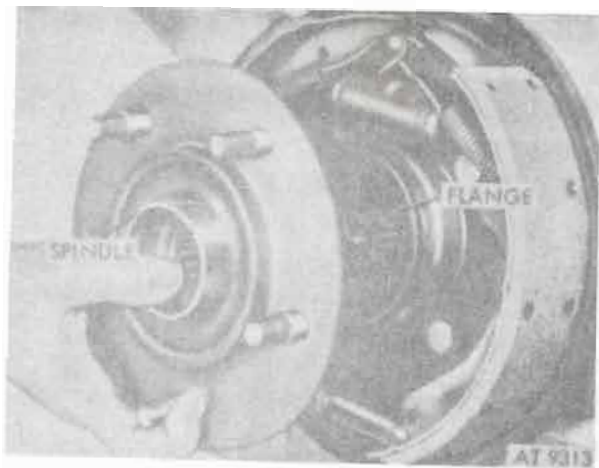

Figure 11-14. Rear wheel spindle.
c. Remove spindle assembly from flange (fig. 11-14).